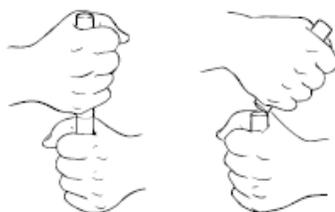

Figure 7: Breaking the 'D' End of the Collector tube
13) With the **D** end still up, break the collector tube in half by pulling the **D** end hard towards yourself to break it, then twisting and tearing off the **D** end (Figure 7). Discard the **D** end.